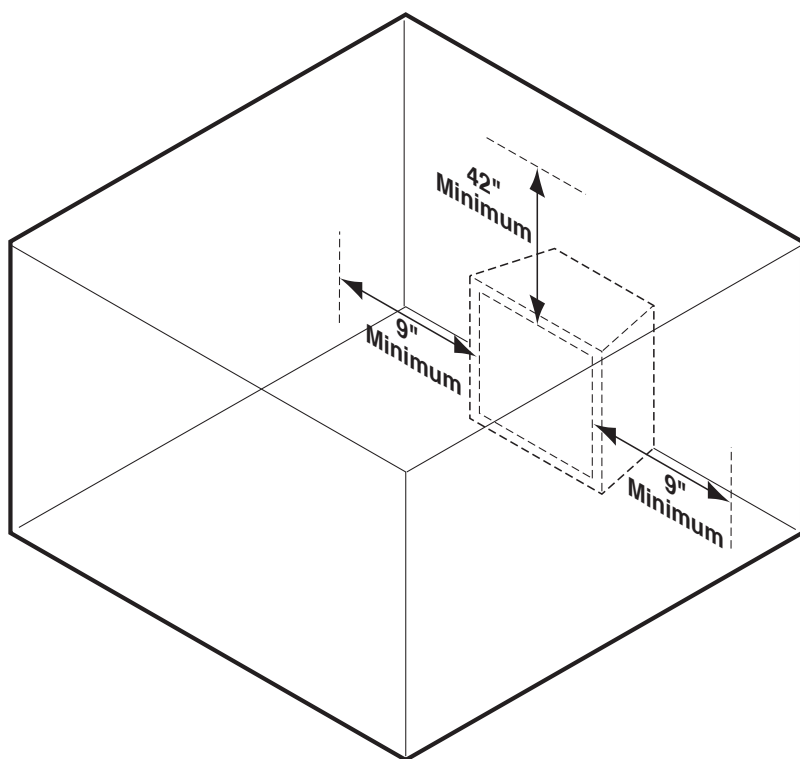

Figure 19 - Clearances and Height Requirements for 24VFSC/24DBXC/VFS32
1. **Sidewall Clearances** — The clearance from the inside of the appliance to any combustible adjacent wall should not be less than 9" for the 24DBXC/24VFSC and 32VFSC. See *Figure 19*.
2. **Ceiling Clearance** — The ceiling must be at least 42" from the top of the firebox opening. See *Figures 19 and 20*.
The dimensions shown in *Figures 19 and 20* are minimum clearances to maintain in installing this heater. Left and right clearances are determined when facing the front of the heater.